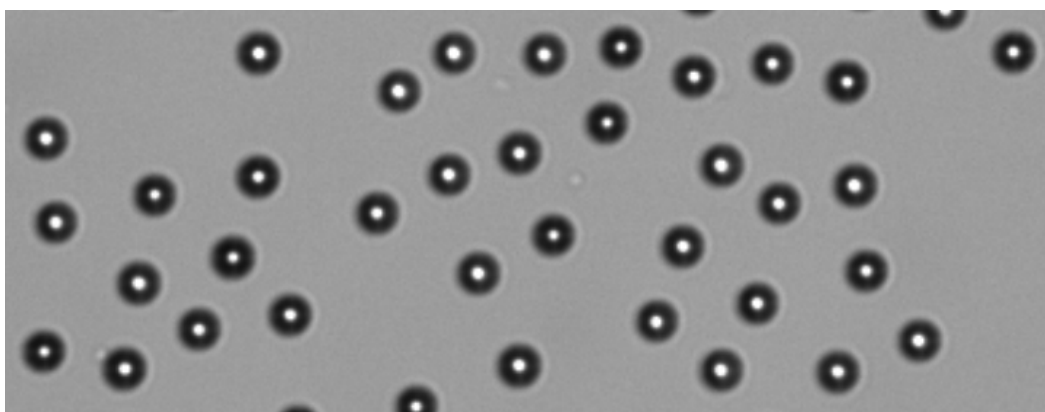

Figure 3. Ideal focus for beads in the brightfield channel
- d. Begin adjusting the focus by zooming in on the beads using pinch/zoom. Open the Focus menu and use the coarse and fine focus arrows to focus. The beads are focused correctly when bright white centers are seen as in Figure 3 below. Press OK to save the focus position. Please note that autofocus should not be used during this process.